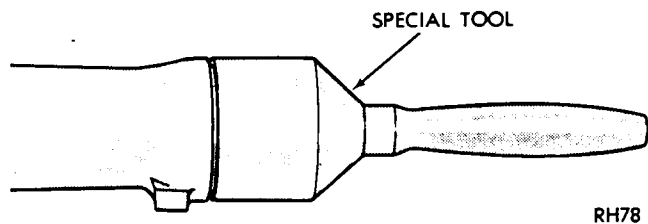

Fig. 6—Install Extension Housing Yoke Seal
(3) To install a new seal, position seal in opening of extension housing and drive it into the housing with Tool C-3995 or C-3972 (Fig. 6).
(4) Carefully guide front universal joint yoke into extension housing and on the mainshaft splines. Align marks made at removal and connect propeller shaft to rear axle pinion shaft yoke.
(4) **A-904T and A-999:** Drive a new oil seal into housing with Tool C-3995 (Fig. 6).